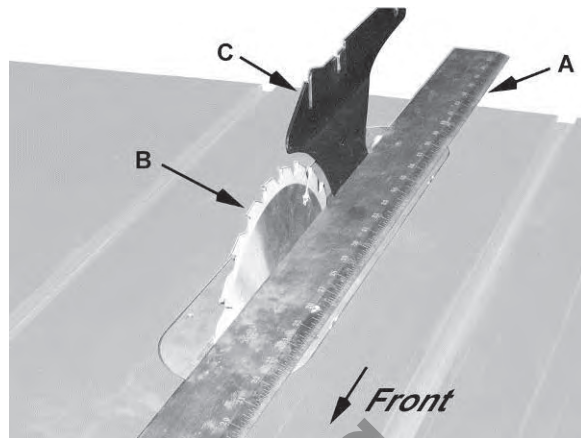

Figure 17
2. Place a *straightedge* (A, Fig. 17) on the table so it rests against the *blade* (B, Fig. 17) and *riving knife* (C, Fig. 17). Rotate the blade so the top of the blade tooth touches the straightedge.